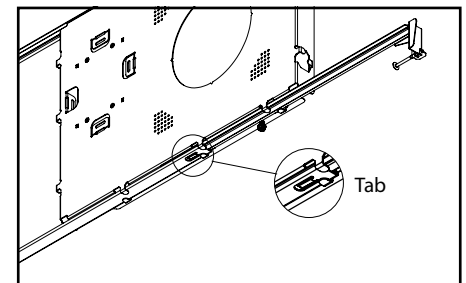

Fig. 5
5. If desired, after drywall installation, install self tapping screws into drywall at locations of perforations to better secure pan to ceiling, help decrease the drywall from bowing in between joists and minimize fixture vibrations in seismic prone areas (Fig.5).